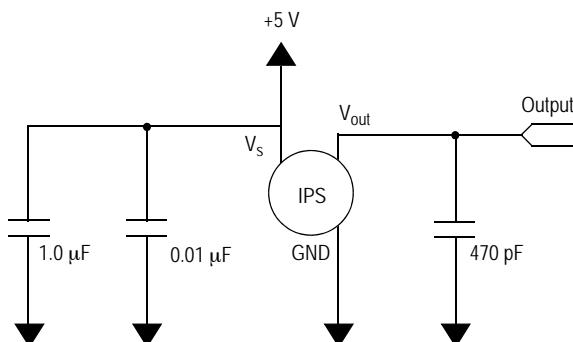

Figure 3. Recommended Power Supply Decoupling and Output Filtering
**Table 1. Operating Characteristics** ( $V_S = 5.1$  Vdc,  $T_A = 25^\circ\text{C}$  unless otherwise noted,  $P1 > P2$ . Decoupling circuit shown in Figure 3 required to meet electrical specifications.)